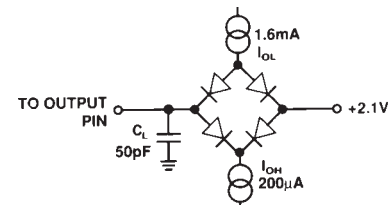

Figure 1. Load Circuit for Access Time
- 3 $t_6$  and  $t_{17}$  are measured with the load circuits of Figure 1 and defined as the time required for an output to cross 0.8 V or 2.4 V.